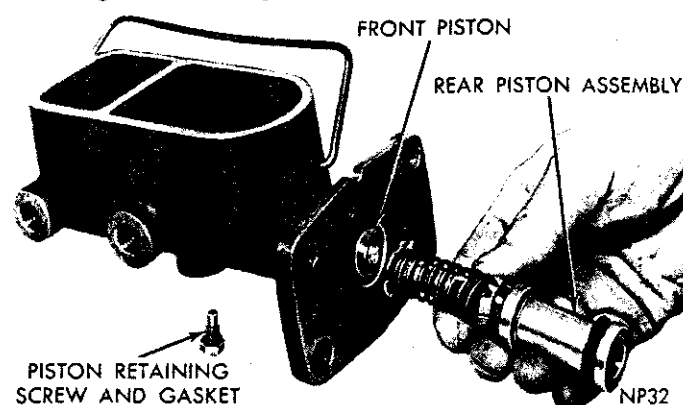

Fig. 6—Installing Rear Piston Assembly
(2) Center spring retainer of rear piston assembly over shoulder of front piston. Push piston assemblies into bore. Carefully work lips of cups into bore, then seat piston assemblies. (Fig. 6).
(3) Holding pistons in seated position, install piston retaining screw and gasket. Tighten securely (Fig. 6).